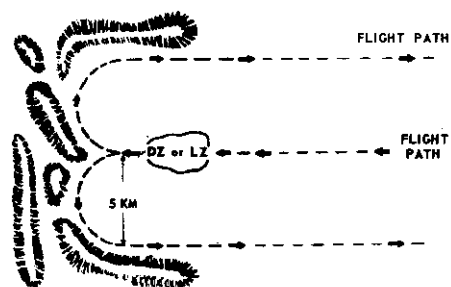

Figure 22. Level turning radius required for one approach DZ's and LZ's (medium aircraft).
(f) DZ's having a single, clear line of approach are acceptable for medium aircraft if there is a level turning radius of 5 kilometers on each side of the site (1.5 kilometers for light aircraft) (figure 22).
(1) Code name. Extracted from the SOI; also, indicate if primary or alternate DZ.
(2) Location. Complete military grid coordinates of the center of the DZ.
(3) Open quadrant. Measured from center of DZ, reported as a series of magnetic azimuths. The open quadrant indicates acceptable aircraft approaches (figure 22).